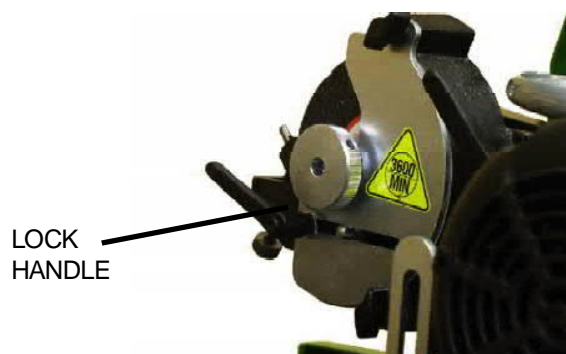

FIG. 15
3. Use the lock handle on the side of the wheel guard to adjust the gap between the fixed finger and the grinding wheel. See FIG 15. To reposition loosen the lock handle and slide the finger toward or away from the grinding wheel. The distance between the grinding wheel and fixed finger should be between .06" [1.5mm] and .18" [4.6mm] depending on the amount of existing relief on the reel.